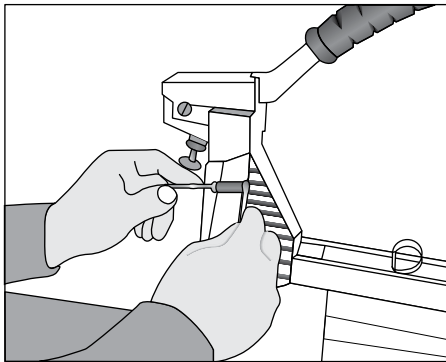

Figure 13
1. Loosen screw and nut with a 8 mm spanner wrench and a 4 mm Allen wrench. (See Figure 13)